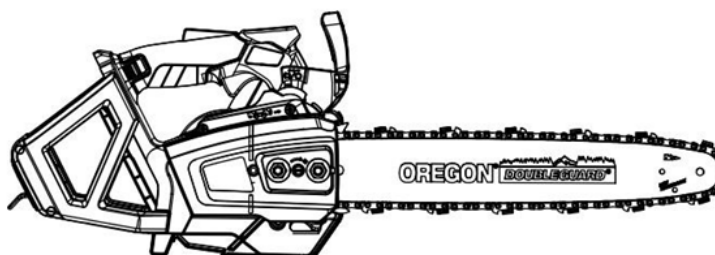

Fig 10
7. Carefully and slowly pull the chain around the bar by hand. Loosen the adjustment if you feel any tight spots (Fig. 10).